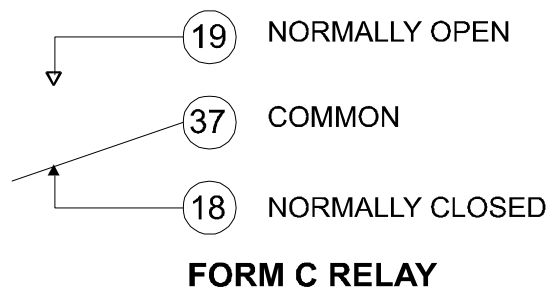

Figure 3-1. Form C Relay (0) contacts
The Form C relay has a common, normally open (NO) and normally closed (NC) contact. Figure 3-1 shows the schematic for a Form C relay, like those connected at relay 0 through relay 4.